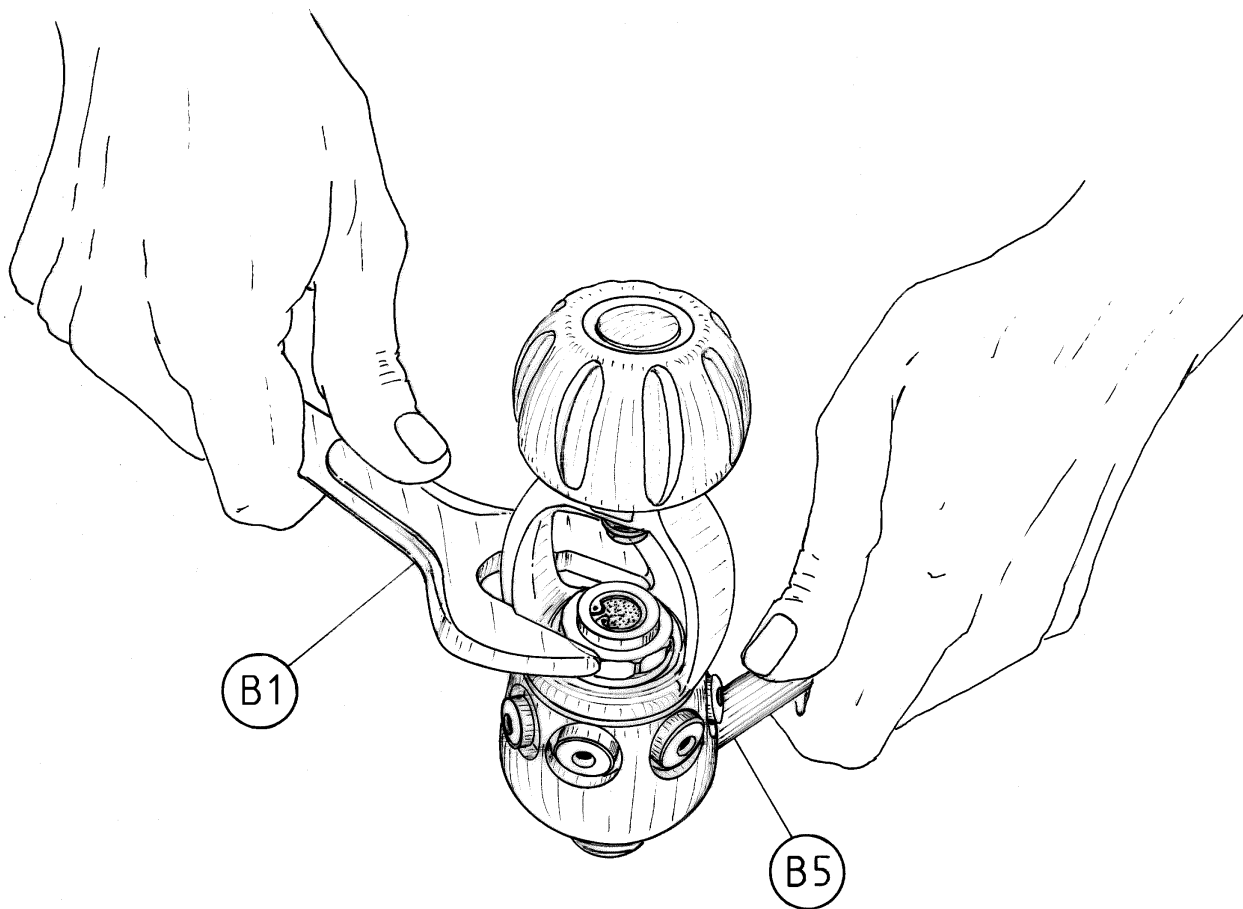

FIG. 1
2. Using a 6 mm hex wrench (B-8), unscrew the D20 swivel locking pin (169), to release the D20 swivel coupling (168) and the D20 rotation stop coupling (170).
3. Pull out the locking pin (169) from the swivel coupling (168).
4. Remove O-Ring (83) from the D20 rotation stop coupling (170), remove O-Rings (83) from the D20 swivel coupling (168), and remove O-Ring (171) and O-Rings (72) from the D20 swivel locking pin (169).
6. Using a small flat head screwdriver, remove the protection cap (70).
7. Using the special tool (B-1) back off the yoke retainer nut (7), thereby releasing the yoke (3) and the yoke knob (25). (Fig. 1)